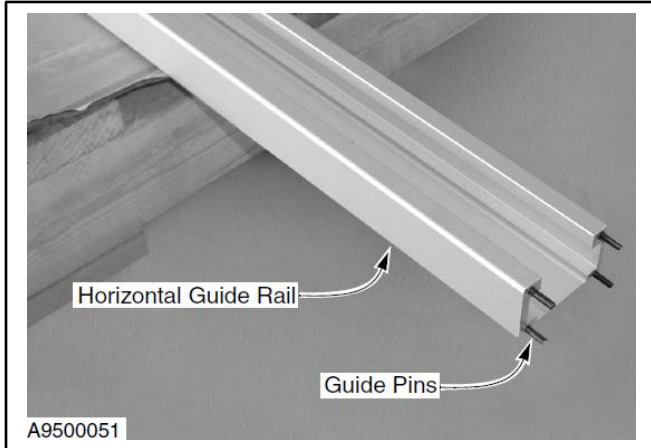

Figure 48
1. Confirm that guide pins are installed in the horizontal guide rail. (See Figure 48.)